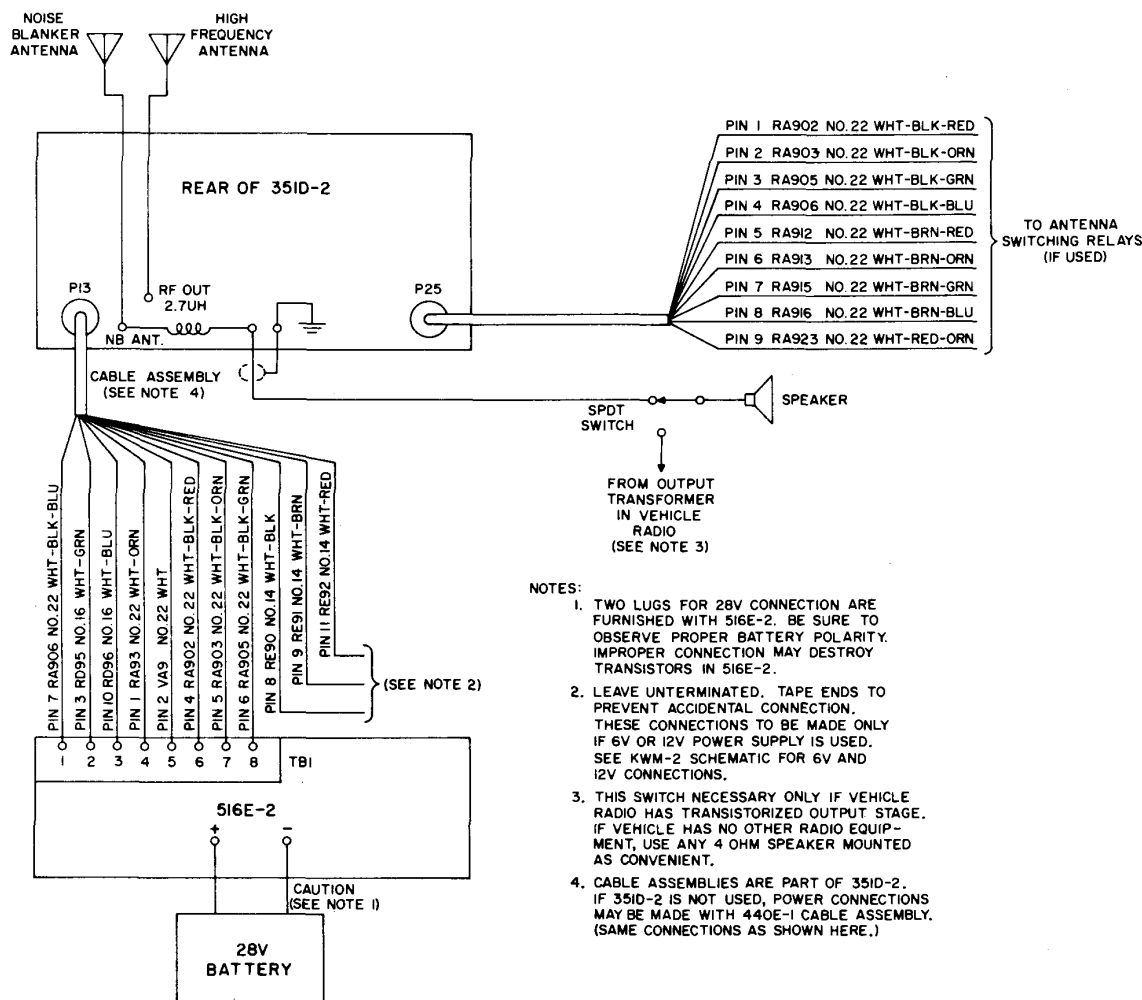

Figure 7-7. Interconnections to Collins KWM-2/2A.
7-16. Installation (fig. 7-7)
- c. Remove the cover from the PP-4765/GRC-159(V) power supply terminal board, and make connections to the terminal board (fig. 7-7).